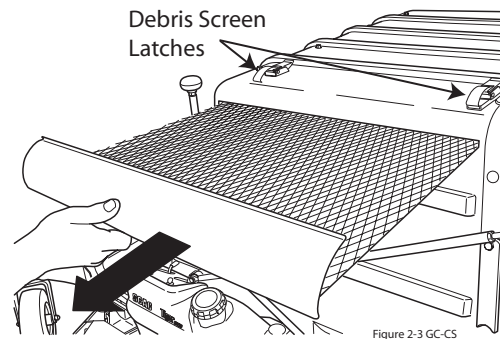

**FIGURE 2-2**
- C. Once the material has been completely removed from the hopper, lift the hopper door handle to close the hopper door and lock into place. See Figure 2-2.